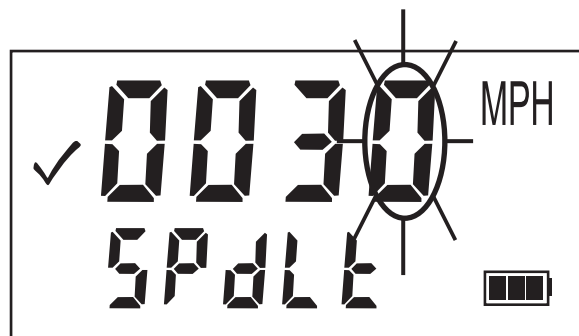

Figure 28
2. Press the  button to edit the local speed limit. The right-most digit will flash as shown in Figure 28.